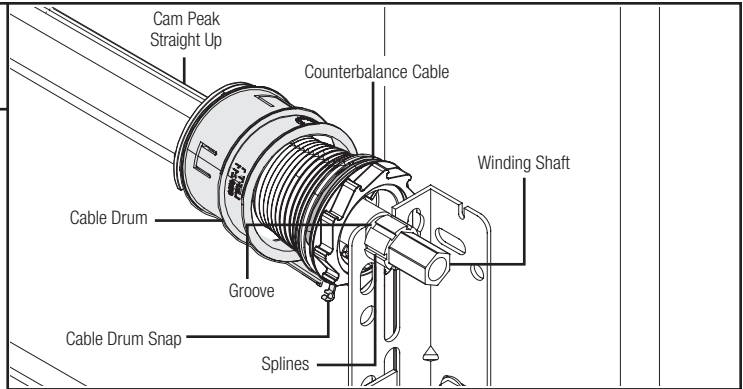

FIG. 1.1
**STEP 1:** Start with the right hand side, unlock the drum wraps from cable drums (if installed) by unlocking the cable drum snap. Pull the cable away from the snap (not to break it off) and then twisting the drum wrap while pulling it away from the drum and leaving it on the back end of the cable drum, as shown in Fig. 1.1.